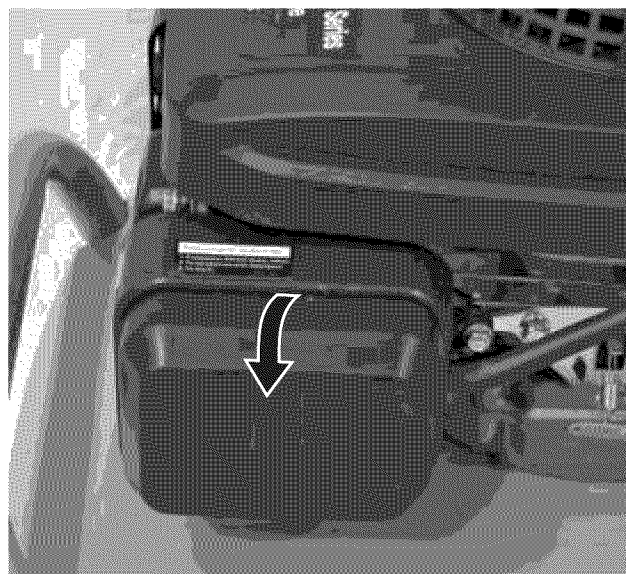

Figure 29 – Removing Air Cleaner Cover
3. Push down on the air cleaner cover to disengage the cover from the top tab (see *Figure 29*).